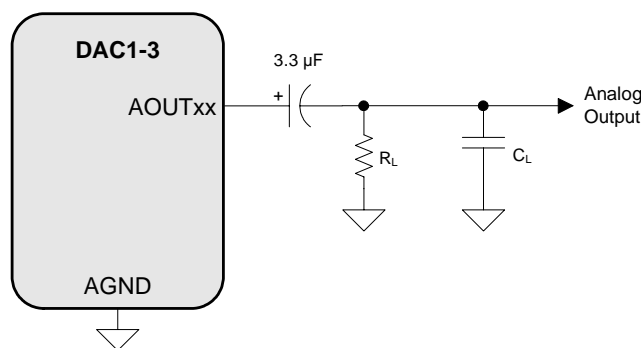

Figure 3. Output Test Load
12. Guaranteed by design. See Figure 3. R_L and C_L reflect the recommended minimum resistance and maximum capacitance required for the internal op-amp's stability and signal integrity. In this circuit topology, C_L will effectively move the dominant pole of the two-pole amp in the output stage. Increasing this value beyond the recommended 100 pF can cause the internal op-amp to become unstable. See Appendix A for a recommended output filter.